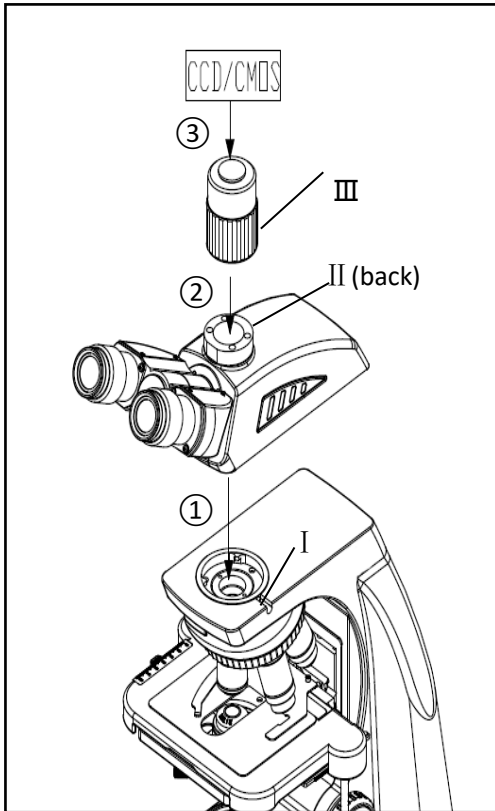

Fig.25
4.1 Installing Trinocular Viewing Head And Video Attachment (Fig.25)
1. Mount the trinocular viewing head according to the assembly path ① in Fig.25 into the round dovetail of the microscope and tighten the screw I to fix the viewing head;
2. Mount the video attachment according to the assembly path ② into the connecting seat of the trinocular viewing head and tighten the screw II;
3. Mount the thread interface of CCD or CMOS according to the path ③ into the video attachment.